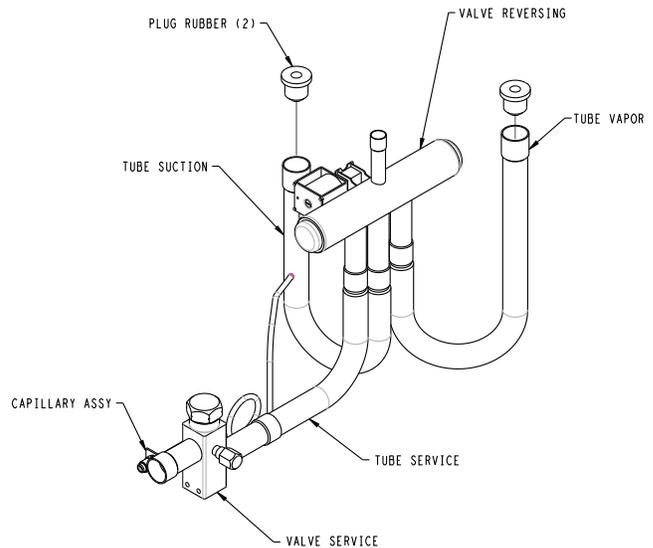

Fig. 2- Tube Vapor and Suction Locations
6. Cut the existing "tube vapor" at location marked in step 3. See Fig 2.